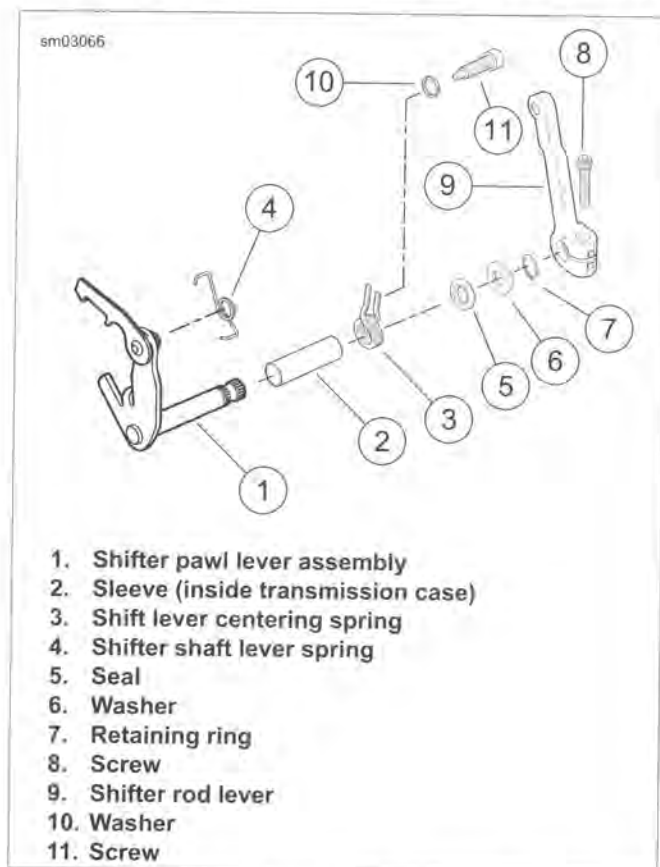
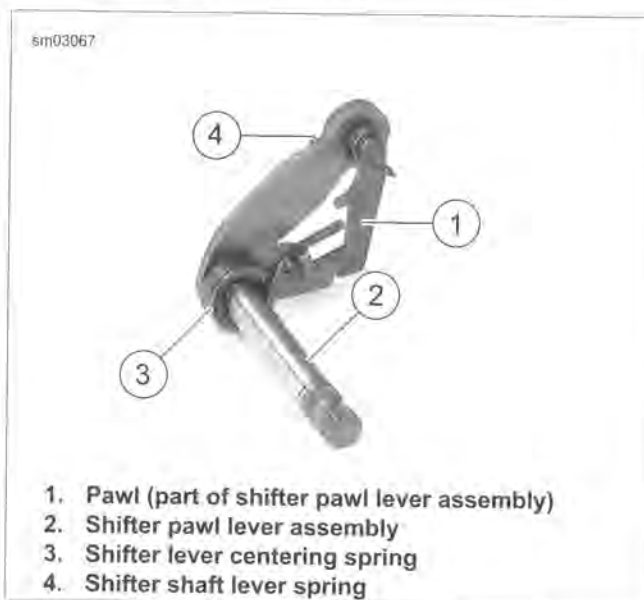

Figure 6-58. Shifter Arm Assembly
Figure 6-59. Shifter Pawl Lever Assembly
1. See Figure 6-58. After removing bearing housing assembly, remove screw (8) and shifter rod lever (9) from the shifter pawl lever assembly (1).
2. Remove retaining ring (7), washer (6) and seal (5). Discard retaining ring and seal. Pull shifter pawl lever assembly out of the transmission case.
3. Inspect sleeve (2) inside transmission case.
2. See Figure 6-58. Inspect the shifter pawl lever assembly (1) for wear. Replace assembly if pawl ends are damaged. Replace centering spring (3) if elongated.
3. Inspect the shifter spring (4). Replace if the spring fails to hold the pawl on the cam pins.
1. See Figure 6-58. Verify that sleeve (2) is inside transmission case.
2. Install screw (11) and washer (10) into side of transmission case. Tighten to 18-23 ft-lbs (24.4-31.2 Nm).
3. See Figure 6-59. Slide shifter lever centering spring (3) over shaft of shifter pawl lever assembly (2). Align opening on spring with tab on lever.
4. Place shifter shaft lever spring (4) on shifter pawl lever assembly.
9. See Figure 6-58. Install shifter rod lever (9) on the shifter pawl lever assembly shaft end using screw (8). Tighten to 18-22 ft-lbs (24.4-29.8 Nm).